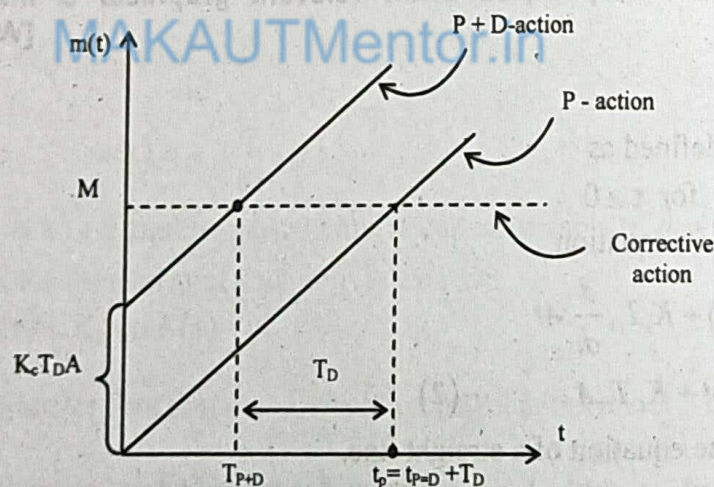

Fig: 1c Relative patterns of P and P+D actions against the control action
- 3) Fig: 1c says that a $P+D$ control action provides a corrective action T_d time earlier than the P -action, intended for the same response. Thus Derivative control anticipates the actuating errors and initiates an early corrective action thus providing faster response and with increased stability of the system.